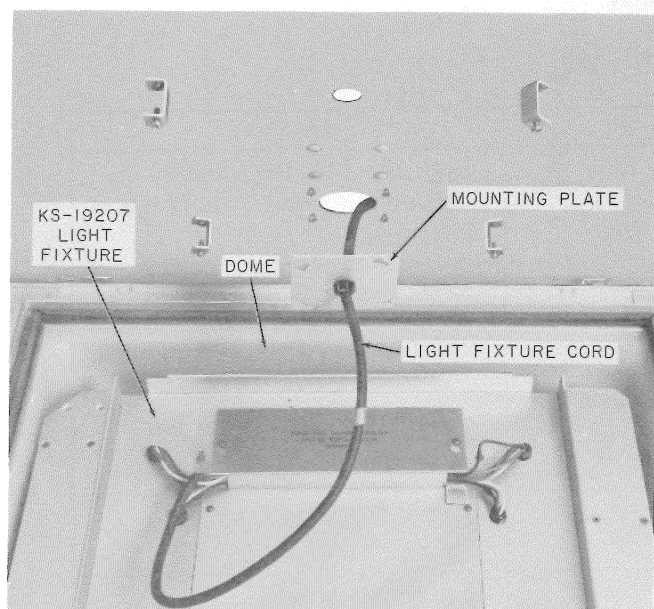

Fig. 13—Securing Mounting Plate to Ceiling
- (j) Position the light fixture in the dome as shown in Fig. 13 and insert light cord through hole in ceiling.